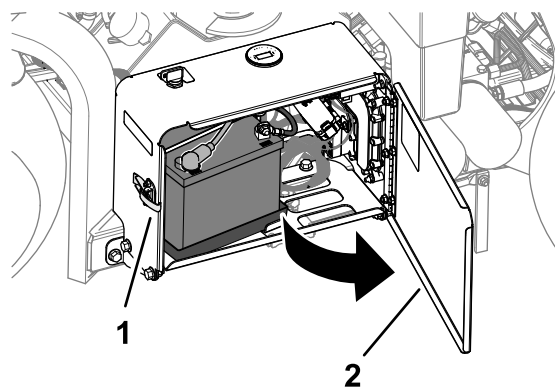

Figure 170
1. Unlatch and open the battery-compartment door (Figure 170).